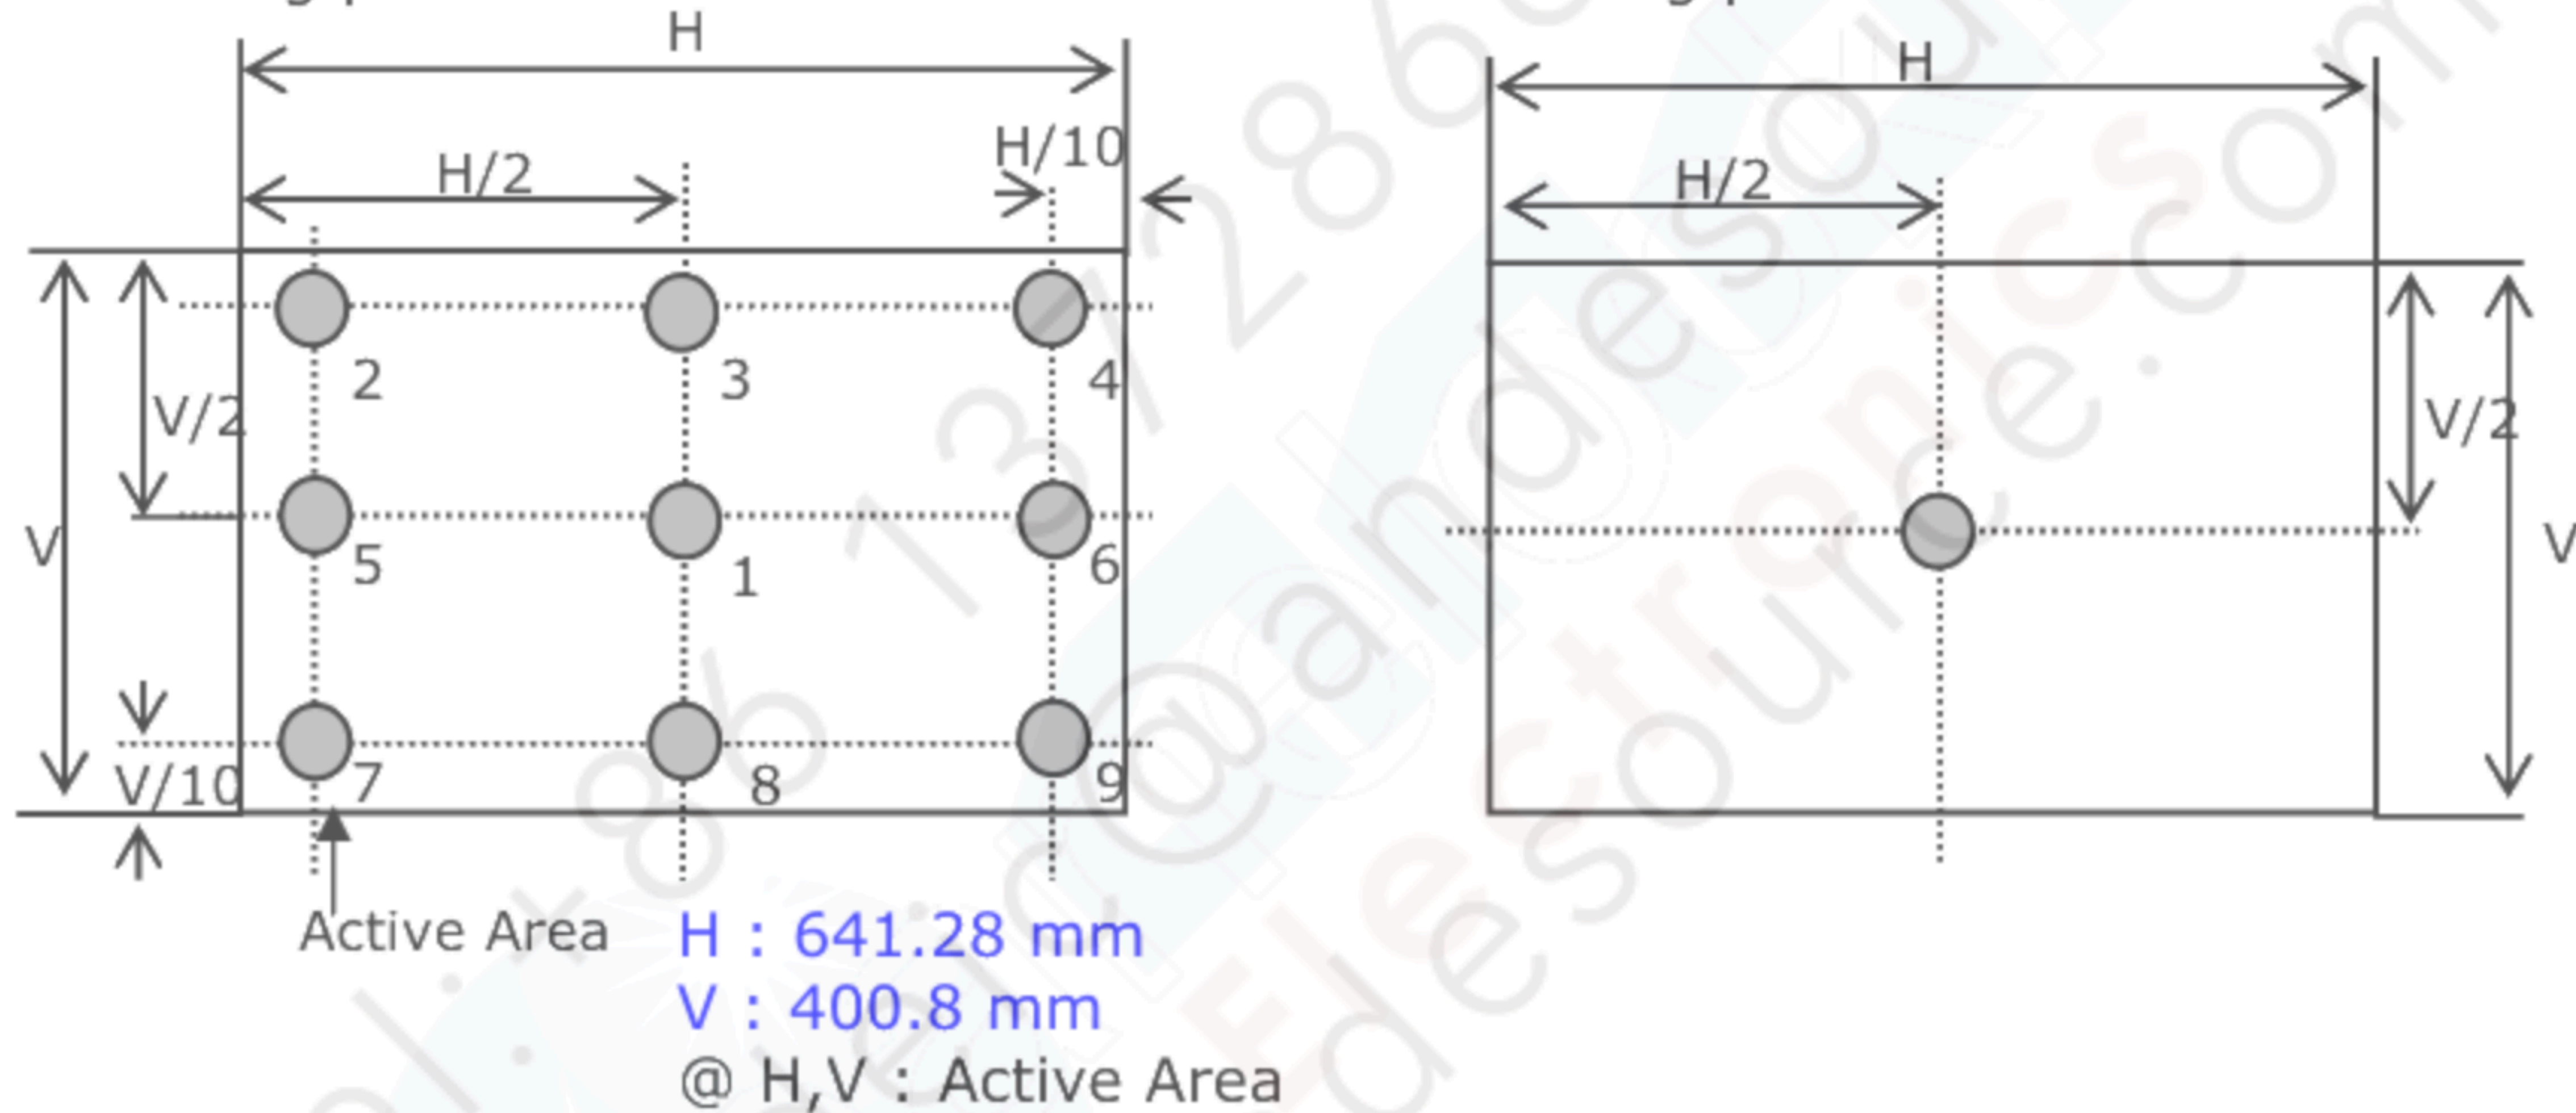

FIG. 3 Measure Point for Luminance
2. Surface luminance(L_{WH}) is luminance value at center 1 point(1) across the LCD surface 50cm from the surface with all pixels displaying white. For more information see FIG 3.
Where L1 to L9 are the luminance with all pixels displaying white at 9 locations. For more information see FIG 3.